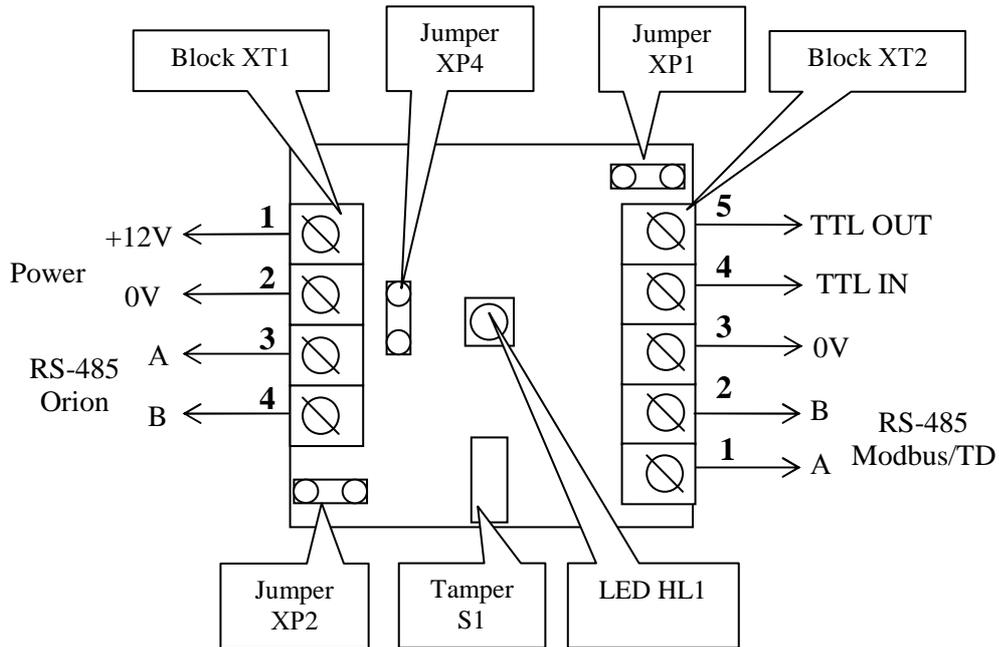

Figure 3. S2000-PP Printed Circuit Board
4.1. Figure 3 schematically shows the location and designation of terminals and jumpers of the S2000-PP.